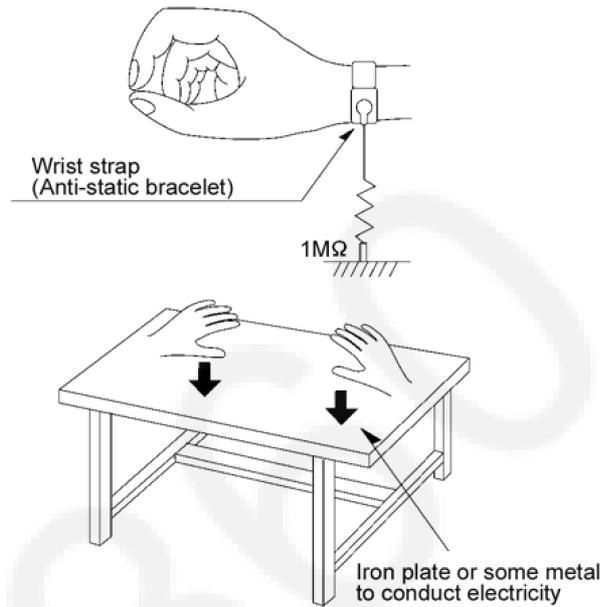

Fig 8.2
1. Human body grounding (Fig 8.2)
2. Work table grounding (Fig 8.2)